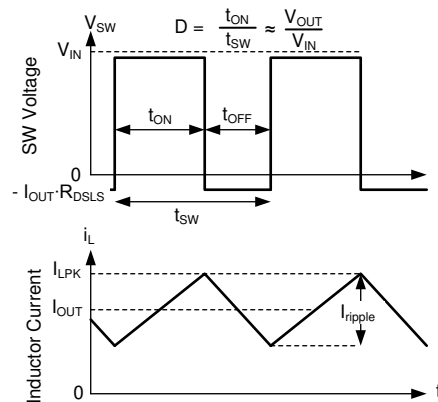

図 7-20. SW Voltage and Inductor Current Waveforms in Continuous Conduction Mode (CCM)
The following operating description of the LM614xxT-Q1 refers to セクション 7.2 and the waveforms in 図 7-20. Both supply a regulated output voltage by turning on the internal high-side (HS) and low-side (LS) NMOS switches with varying duty cycle (D). During the HS switch on-time, the SW terminal voltage, V_{SW} , swings up to approximately V_{IN} , and the inductor current, i_L , increases with a linear slope. The HS switch is turned off by the control logic. During the HS switch off-time, t_{OFF} , the LS switch is turned on. Inductor current discharges through the LS switch, forcing V_{SW} to swing below ground by the voltage drop across the LS switch. The regulator loop adjusts the duty cycle to maintain a constant output voltage. D is defined by the on-time of the HS switch over the switching period: $D = T_{ON} / (T_{ON} + T_{OFF})$.